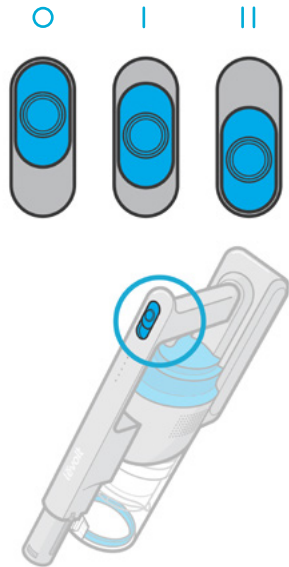

Figure 1.2
3. Slide the On/Off button forward to turn the vacuum on. Slide the button to Stage I for hard floors, or slide to Stage II for rugs and carpets [Figure 1.2].
4. Slide the On/Off button back completely to turn the vacuum off [Figure 1.2].